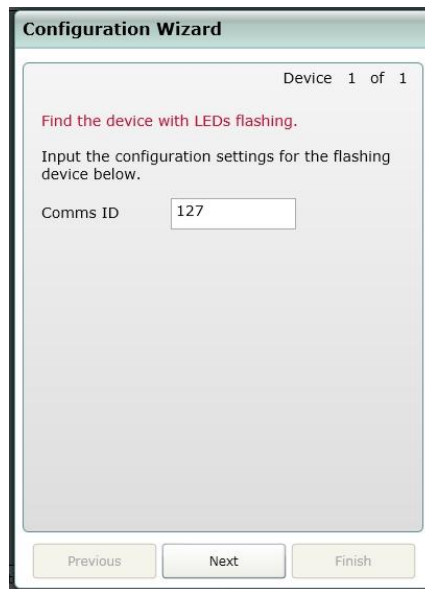

Figure 8
3. After the software connects to the sensor, the setup wizard will run and should tell you that the IDs need to be configured. Press Next and you will be asked to enter a Comms ID for the sensor with flashing lights. In a single sensor setup, using "1" will be safe. See Figure 8 below for illustration.